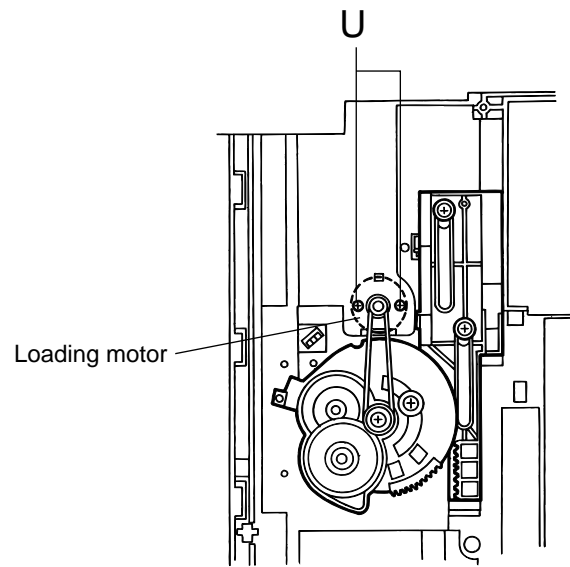

Fig.24
**■ Removing the loading motor / loading motor board (See Fig.24 and 25)**